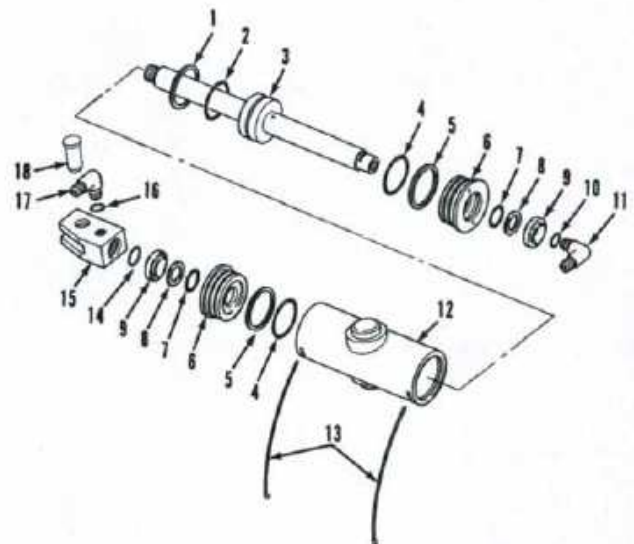

Fig. 38—Exploded view of steering cylinder used on models with adjustable front axle.
To disassemble the cylinder, first clean exterior of cylinder and clamp lower pivot flange in a soft jawed vise. Remove elbow fitting (11—Fig. 38) from left end of cylinder rod and clevis (15) from right end. Lift end of retaining ring (13) out of slot, then using a pin type spanner, rotate cylinder head (6) and work retaining ring out of its groove. Cylinder rod and piston assembly (3) can now be removed from cylinder tube (12). Remove remaining cylinder head in the same manner. All seals, "O" rings and back-up rings are now available for inspection and/or renewal. Clean all parts in a suitable solvent and inspect. Check cylinder tube (12) for scoring, grooving and out-of-roundness. Light scoring can be polished out by using a fine emery cloth and oil, providing a rotary motion is used during polishing operation. A cylinder